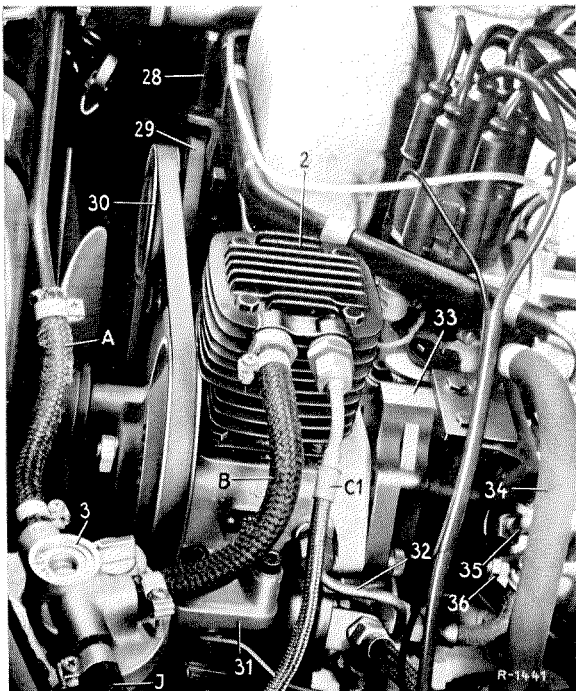

Fig. 32-10/5
The air compressor is attached to the housing for the injection pump drive by means of the bracket (31) (Fig. 32-10/5).